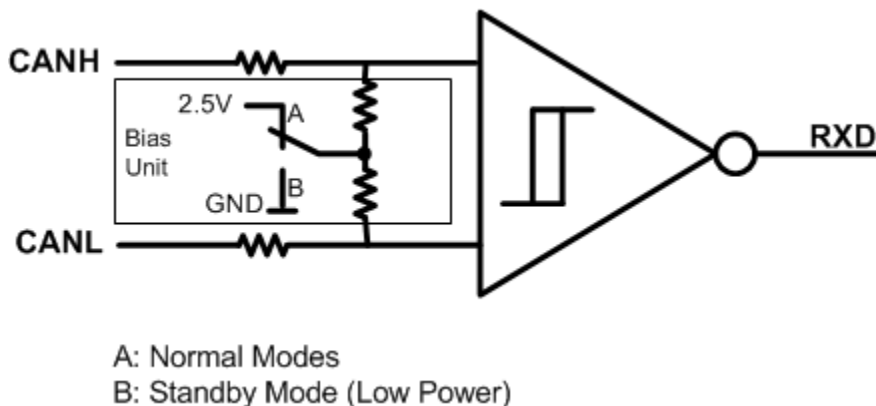

Figure 14. Bias Unit (Recessive Common Mode Bias) and Receiver
- (1) H = high level, L = low level, X = irrelevant, Z = common mode (recessive) bias to $V_{CC} / 2$. See and Figure 14 for bus state and common mode bias information.
- (2) Devices have an internal pull up to V_{CC} or V_{IO} on TXD terminal. If the TXD terminal is open the terminal will be pulled high and the transmitter will remain in recessive (non-driven) state.